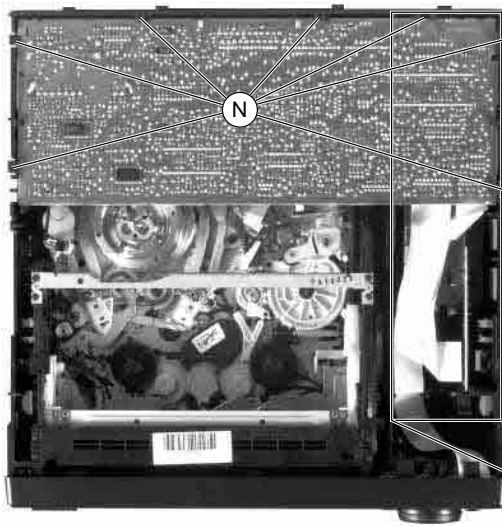

Fig. 6
- Décrocher les ergots (N) et retirer le C.I. principal (Fig. 6).
- Release the locking lugs (N) and remove the Family Board (Fig. 6).